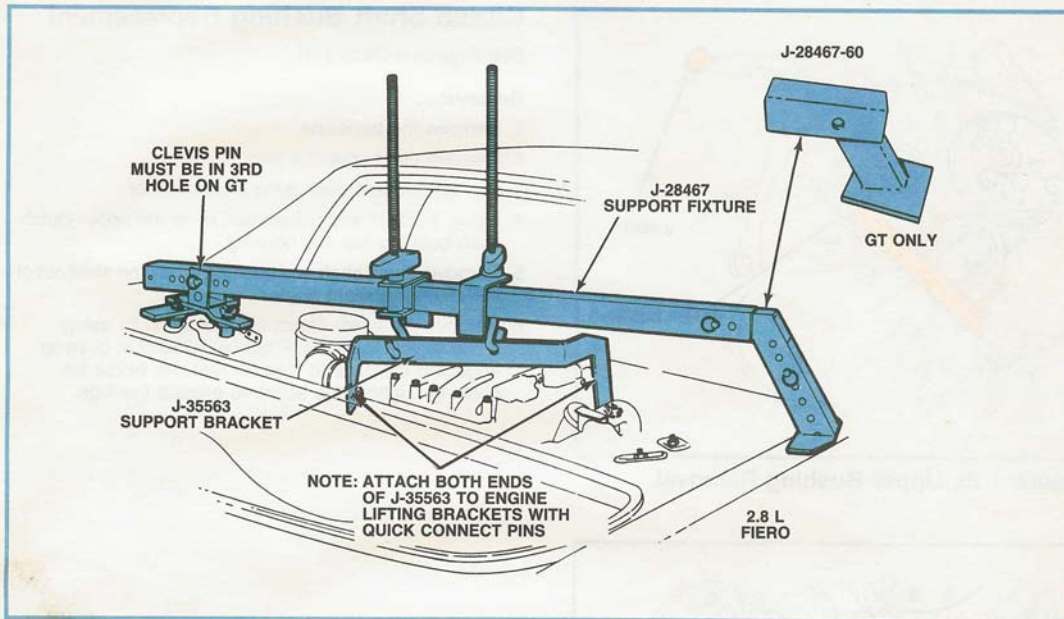

Figure 4-26, Special Tool Engine Support.
3. Install J-28467, J-35563, J-28467-60 (GT only), engine support fixture. Attach fixture hook to engine lift ring and raise engine enough to take the pressure off the mount (Figure 4-26).
10. Install J-28467, J-35563, J-28467-60 (GT only), engine support fixtures. Attach fixture hook to engine lift ring and raise engine enough to take the pressure off the mounts (Figure 4-26).